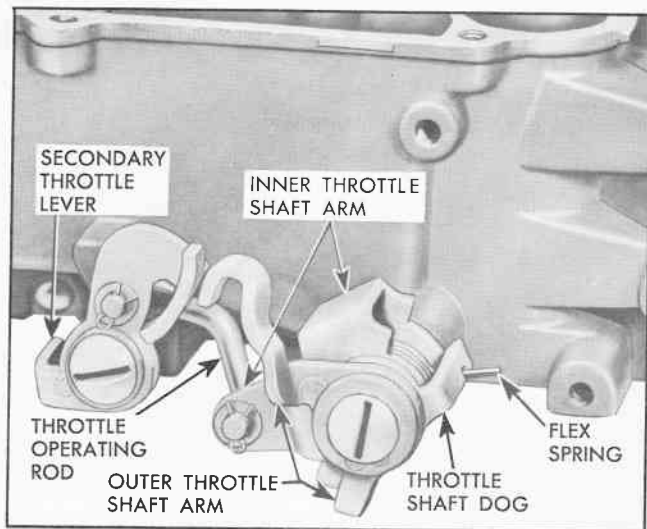

Fig. 16 Primary and Secondary Throttle Linkage
19. Remove primary to secondary throttle operating rod (Fig. 16).
20. Remove screw, secondary throttle shaft washer and secondary throttle operating lever and spring (Fig. 16).
21. Unhook throttle flex spring from primary outer throttle shaft arm (Fig. 16).
23. Remove outer throttle shaft arm and throttle shaft dog (Fig. 16).